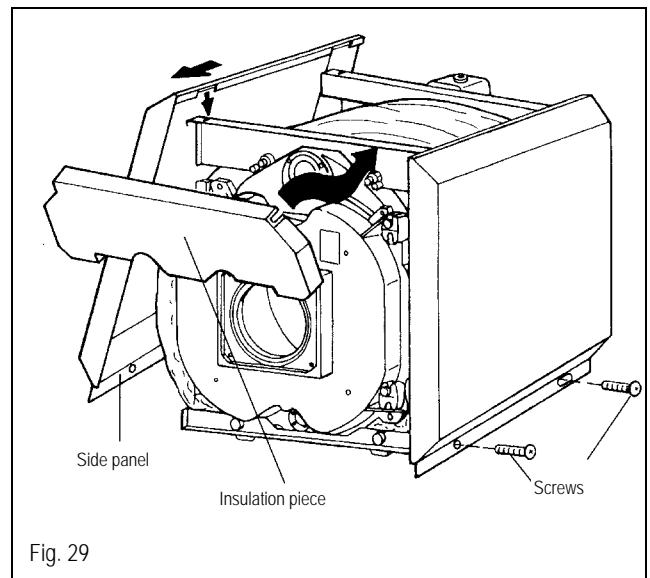

Fig. 29
- Slide the insulation piece with cut-out onto the folded edge of the front upper support bracket (Fig. 29).
- Hang the side panels at the knock-outs on the support brackets and slide them forward until fully engaged with the support bracket slots (Fig. 29).
- Secure the bottom of the side panels to the lower support brackets with two sheet metal screws (Fig. 29).